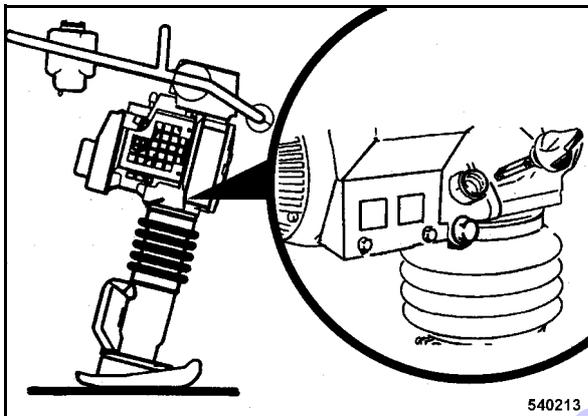

Fig. 34
- Pull out the dipstick (Fig. 34) and wipe it clean with a lint-free, clean cloth.